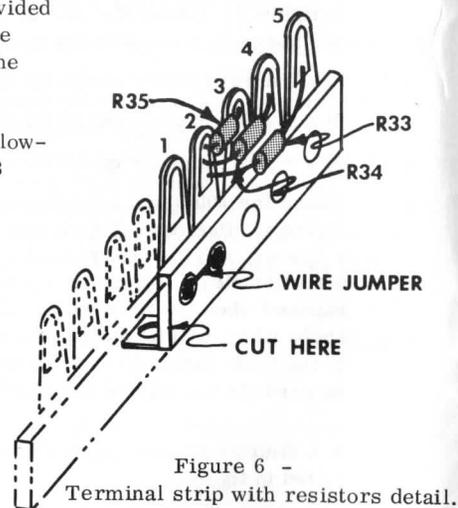

Figure 6 -
- ( ) Locate the 9 lug terminal strip provided and using a pair of diagonal cutters, or other suitable tool, cut as shown in figure 6. Pay particular attention that the terminal strip is oriented exactly as shown in figure 6.